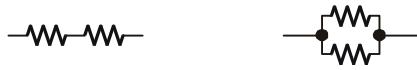

Figure 5-5
Why do we have to have to talk about both resistance and conductance, if one is just the inverse of the other? Get used to it! There is a separate term for the inverse of everything in electronics. In electronics it is more common to talk about resistance. However, in materials science, chemistry, and environmental instrumentation, it is more common to hear the term conductance. Maybe that is because in the liquid medium there are many, many different paths between any two points. The different paths are like many resistors in parallel, and changes in the liquid medium tend to change those parallel elements. So it is easier to talk about conductance, where conductances add in parallel. Figure 5-5 shows how resistors are placed in series and parallel to measure resistance R and conductance (G).